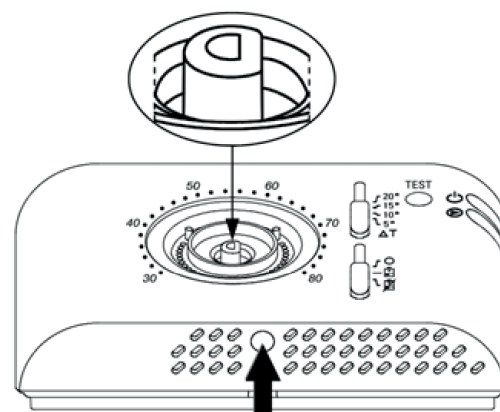

Fig. 4
- 3** Push the plastic tab in the lower slot using a screwdriver, slightly lifting the cover (Fig. 4).